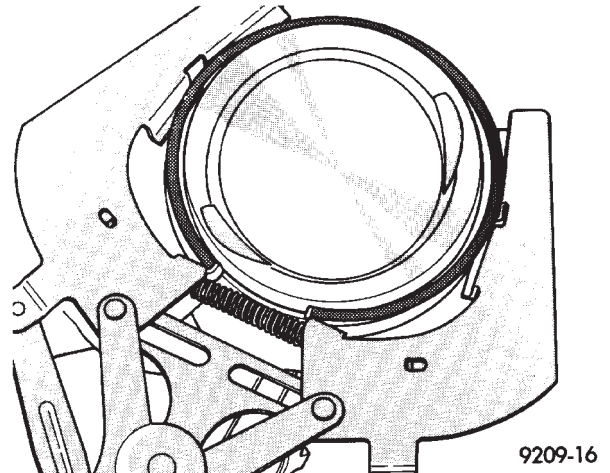

Fig. 94 Piston Rings—Removing and Installing
- (1) ID mark on face of upper and intermediate piston rings must point toward piston crown.
- (2) Using a suitable ring expander, remove upper and intermediate piston rings (Fig. 94).